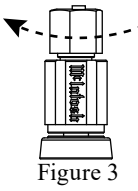

Figure 3
3. Rotate the top of the Output Terminal Post clockwise until it is finger tight. Refer to figure 3. Then using the McIntosh Wrench, rotate the top of the Output Terminal one quarter of a turn (90°). **Do not over tighten.**